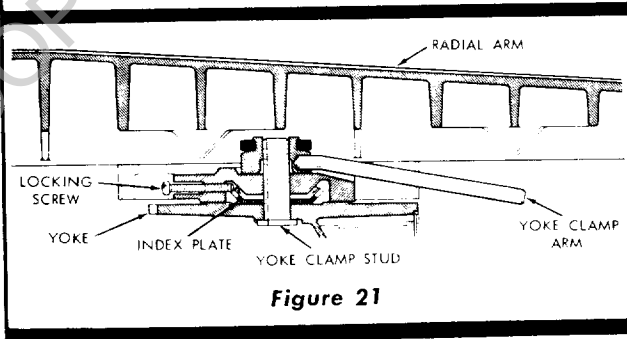

Figure 21
2. Locate the index plate locking screw at the rear of the yoke assembly. (See figure 21.)
3. Turn the locking screw outward at least 1/4-inch from tight position. This frees the index plate (figure 21) which